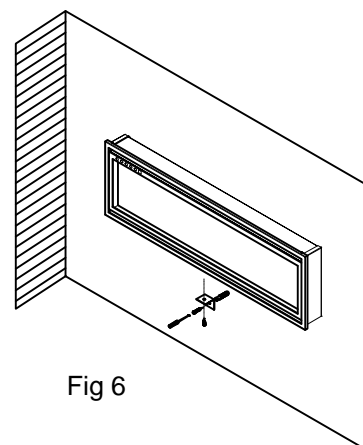

Fig 6
7. To prevent fireplace from moving, use the provided safety screw to fasten the fireplace to the wall. See Figure 6.